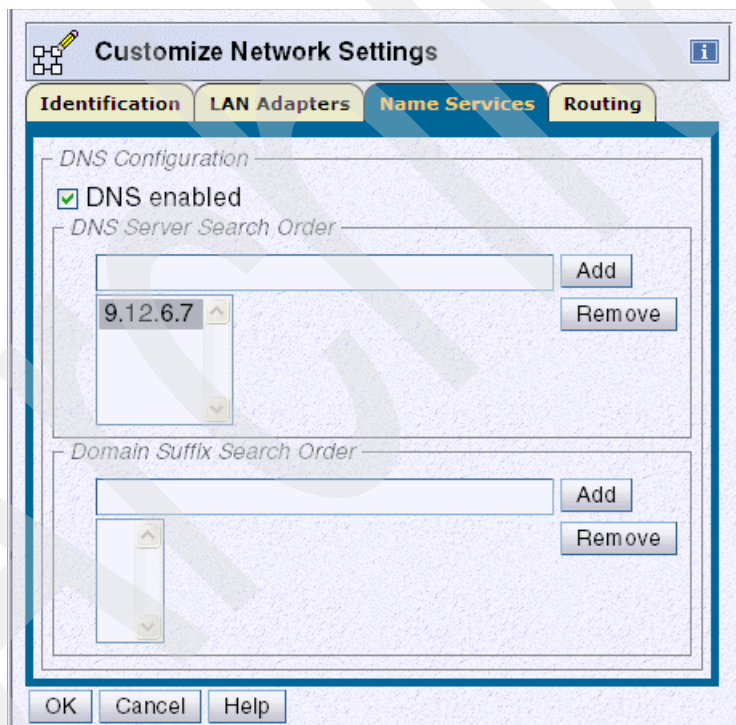

Figure 2-28 Customize Network Settings, Name Services
8. Select the Name Services tab in the Customize Network Settings panel (Figure 2-28).